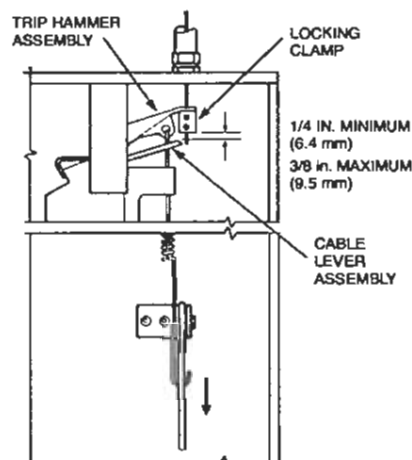

FIGURE 35
16. Lower tension lever to "DOWN" position and inspect the base of the wire rope locking clamp to make certain that there is a minimum of 1/4 in. (6.4 mm) and a maximum of 3/8 in. (9.5 mm) clearance between the base of the trip hammer locking clamp assembly and the cable lever assembly. See Figure 35. (If clearance is not between 1/4 in. (6.4 mm) or 3/8 in. (9.5 mm), raise tension lever, loosen set screws on locking clamp and repeat Steps 15 and 16.)